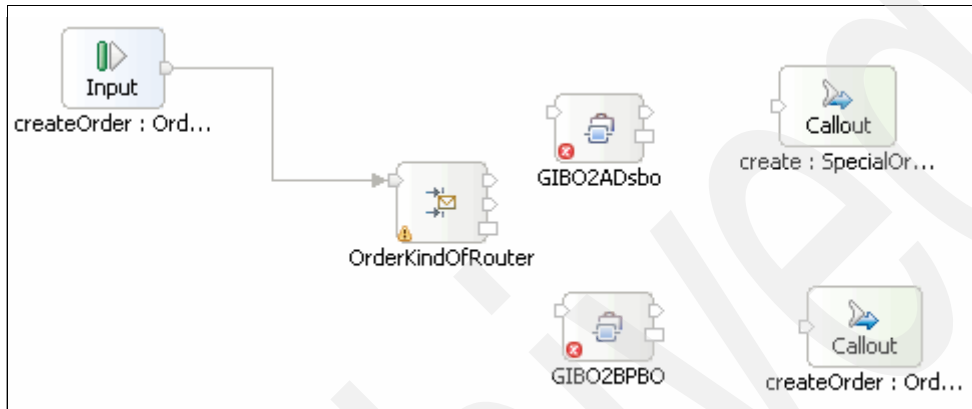

Figure 4-42 Primitives in the mediation flow renamed
1. Wire the createOrder out terminal to the in terminal of the Message Filter primitive, OrderKindOfRouter as shown in Figure 4-42.